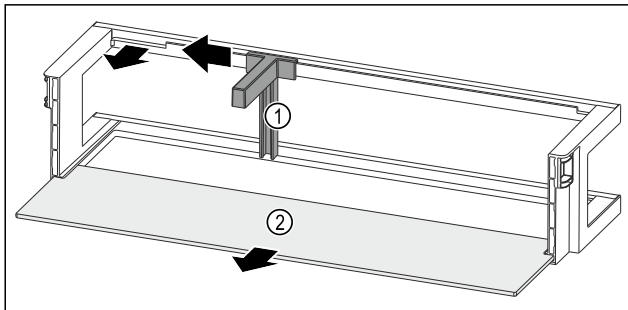

Fig. 239 Door rack with bottle holder and shelf
- ▶ Slide the bottle holder Fig. 239 (1) to the side as far as the recess.
- ▶ Remove the bottle holder Fig. 239 (1).
- ▶ Remove the shelf Fig. 239 (2).